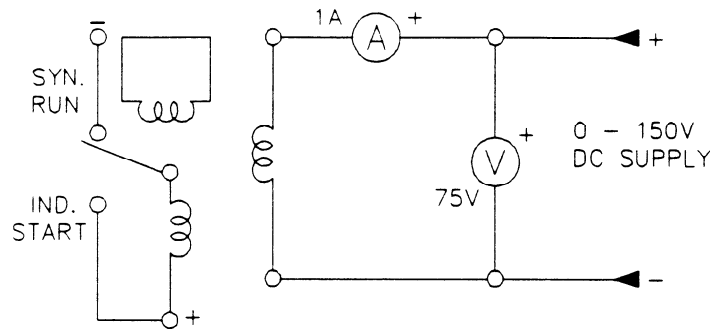

Figure 6-2
step 13. Connect the 150 volt supply to one of the alternator's coils as shown in Figure 6-2.